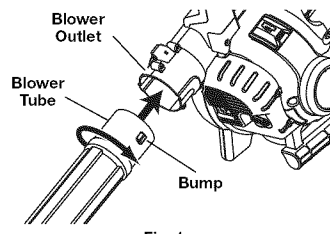

Fig. 1
1. Align the bump on the end of the blower tube with the bump slot on the bottom end of the blower outlet (Fig. 1).
2. Insert the blower tube into the blower outlet (Fig. 1).
3. Twist the blower tube clockwise until it locks into place (Fig. 1).